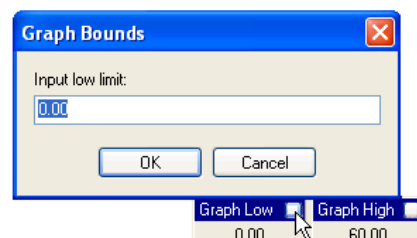

Figure 134 Graph Limit Setting.
6. If required, click on white square on the relevant 'Graph Low' or 'Graph High' title bar, and set the low and high values to appear with an associated bargraph (Figure 134).